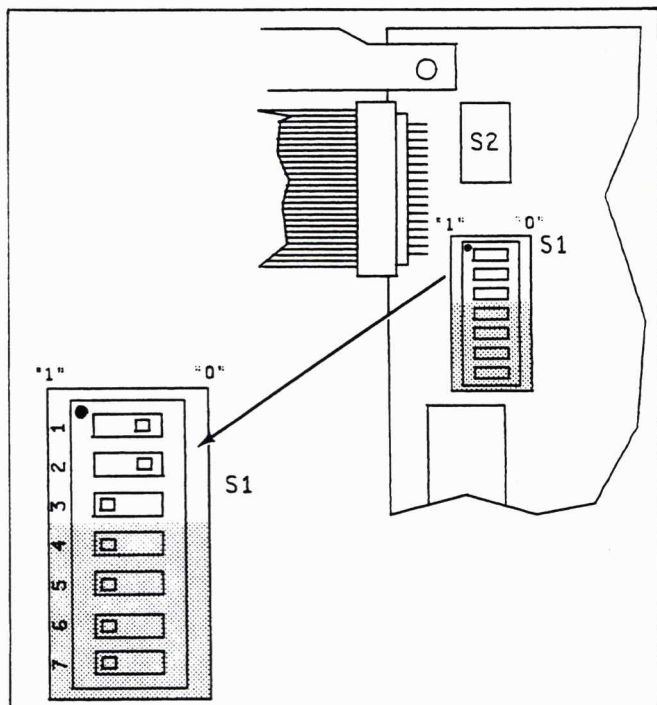

Figure 8-A2-9. Switch Setting for Test #4
Before exiting Test #3, make sure the pulse transformers are wired for normal operation, as shown in Figure 8-A2-7.
8-A2-51. General. This test is in four parts: 4A, 4B, 4C, and 4D. In the tests, 256 bit patterns are written to the timer/pacer assembly and then read back. The SST Test Point on the timer/pacer board must be grounded for these tests so that data paths can be verified in both directions (to and from timer/pacer circuitry). When the test is enabled, the timer microcomputer is held in a reset state and will not interface with the test. The signature on pin 9 of U39 shows the pass/fail condition. A flowchart of Test 4 is in Figure 8-A2-8. Unless otherwise noted, refer to Schematic A3 when doing the tests.
- c. Refer to Figure 8-A2-9 and move switch segment 3 of switch S1 to the “1” (left) position. Make sure switch segments “1” and “2” are in the “0” (right) position.